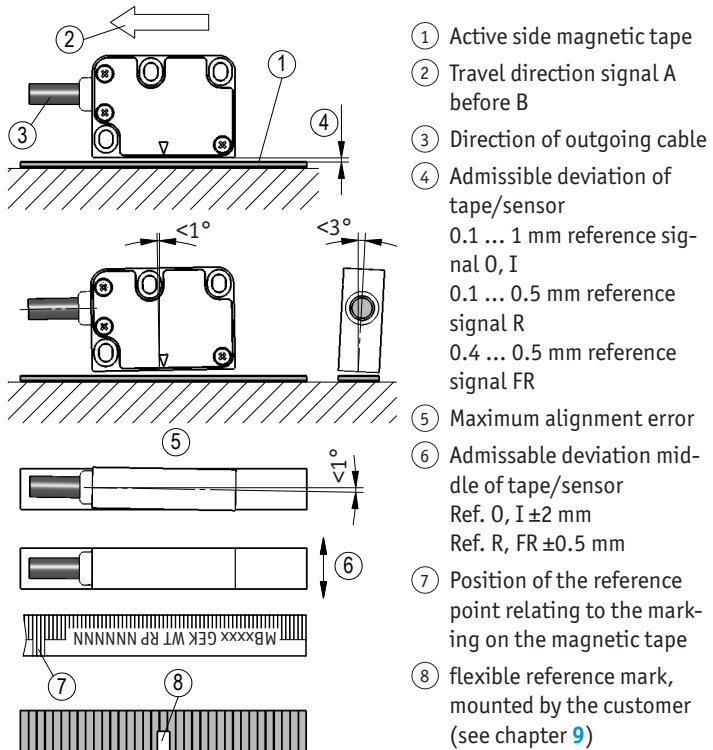

Fig. 6: Definition of the counting direction with magnetic tape and assemblage sensor / magnetic ring, gap measure, tolerances
► Take care that the magnetic sensor is aligned correctly in order to ensure optimum sensing (see Fig. 6).